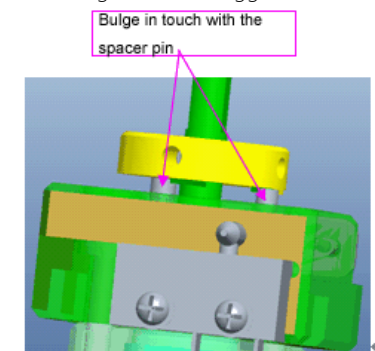

FIGURE 5-70
- a. Rotate the turntable to let the bulge touch the spacer pin (located on the trigger switch mounting block and trigger rod), see FIGURE 5-70).